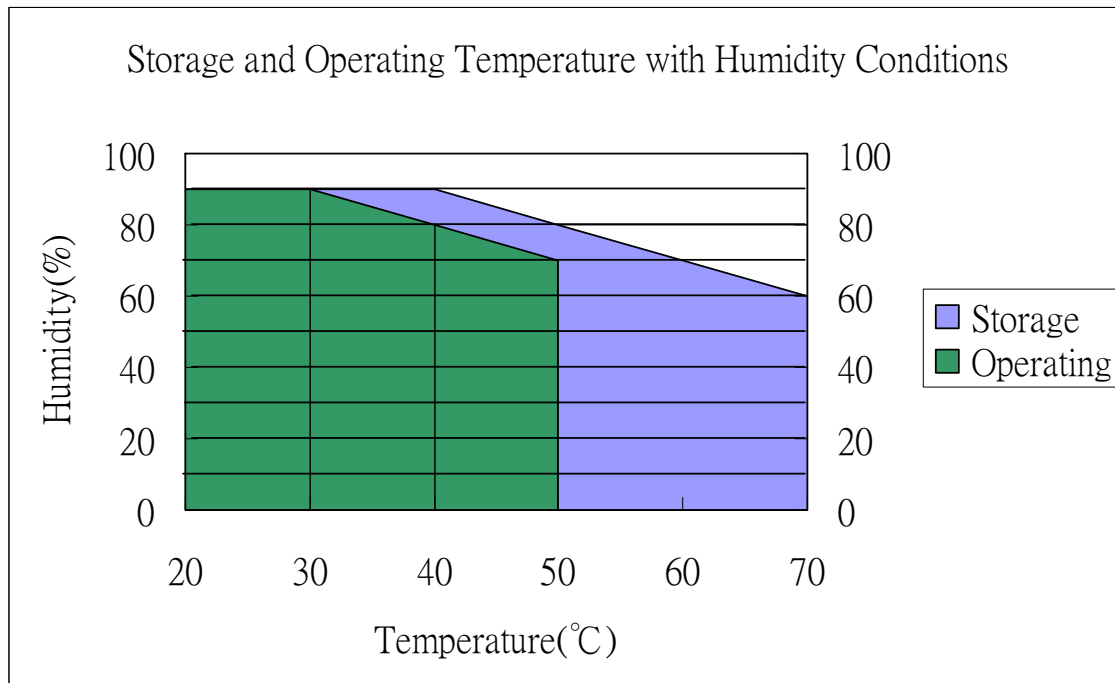

Fig. 5 Storage and Operating Temperature with Humidity Conditions
5.3 Humidity: if temp. $\geq 20^{\circ}\text{C}$, See Fig. 5 below